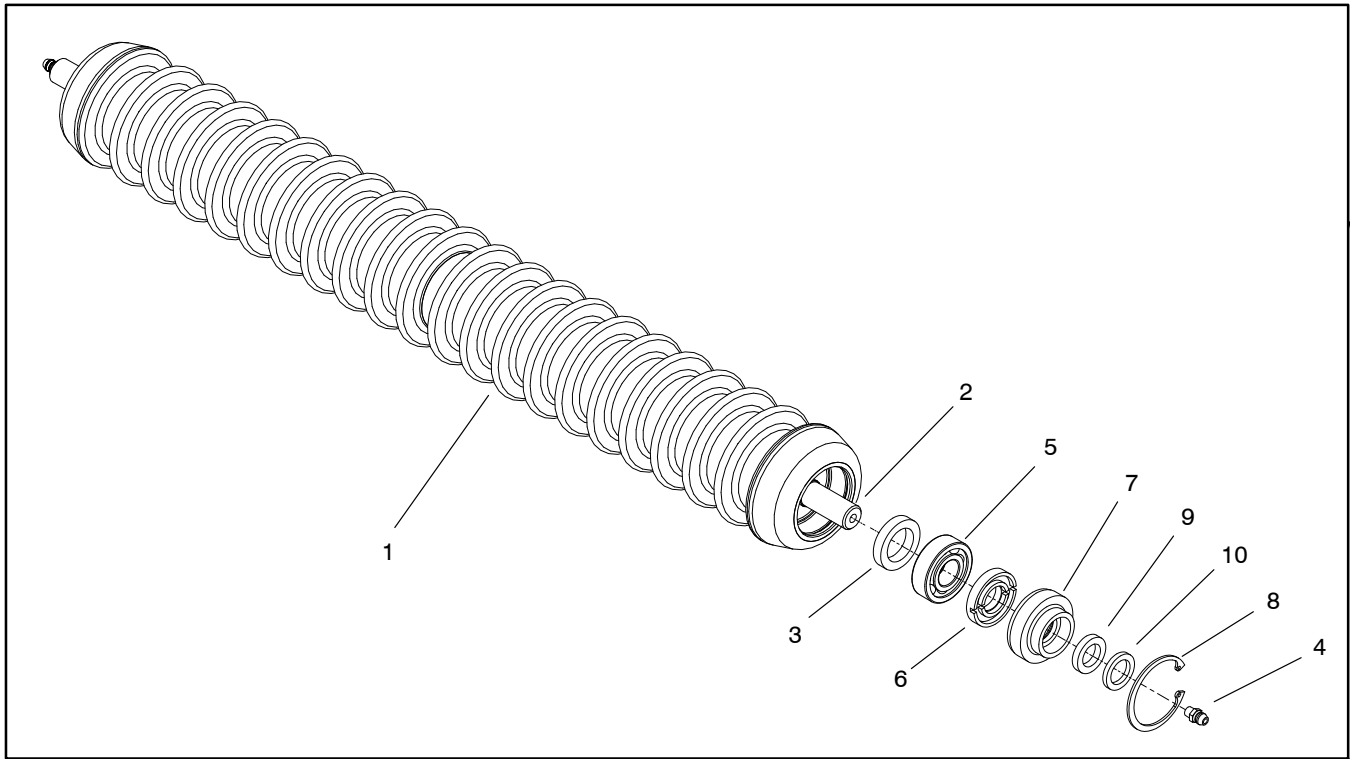
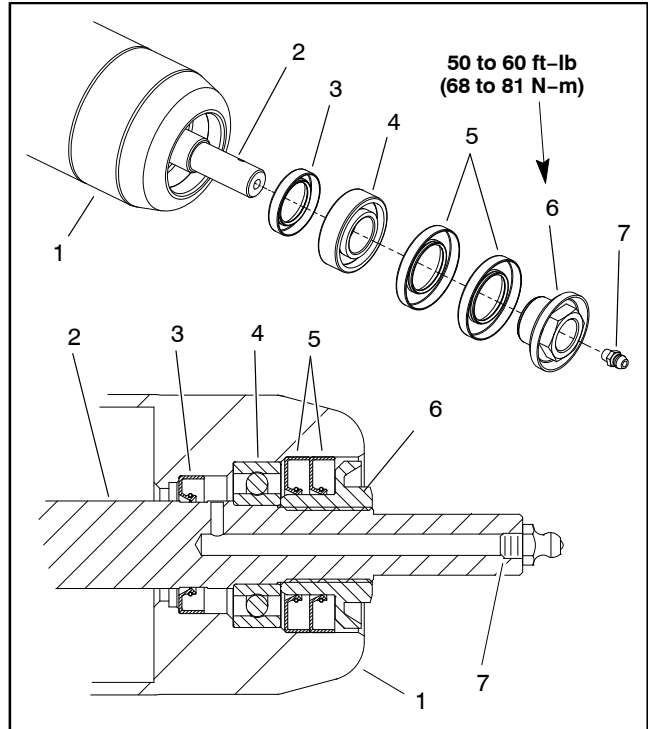

Figure 45
Figure 47
**NOTE:** Numerous front and rear rollers are available for the Reelmaster cutting units. These rollers use one of two styles of bearing and seal configurations. The first design has retaining rings that secure the bearings and seals in the roller (Fig. 45). The second design uses a bearing lock nut to retain bearings and seals (Fig. 47).
### Disassembly (Figs. 45 and 46)
## Assembly (Figs. 45 and 46)
### Disassembly (Fig. 47)
### Assembly (Fig. 47)